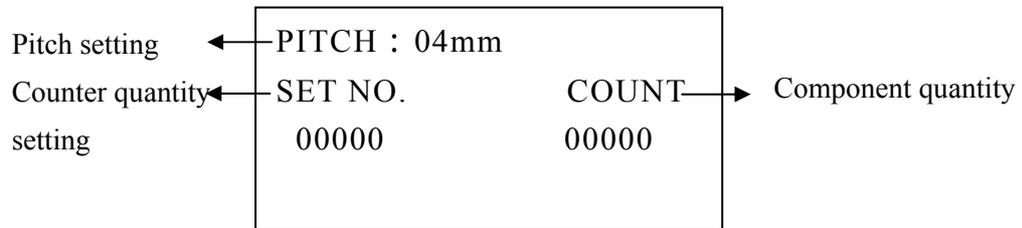

Figure 3
1. Turn on the GAM-12 (Chip Counter)  power switch, the panel board will display as below, please refer to Figure 3 :